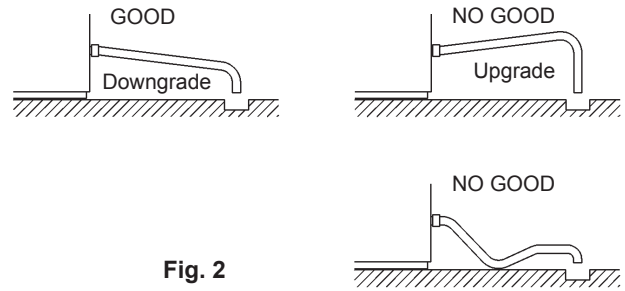

Fig. 2
- \* To prevent a backflow into the Storage Bin, the outlet hose must be laid as shown in Fig. 2.